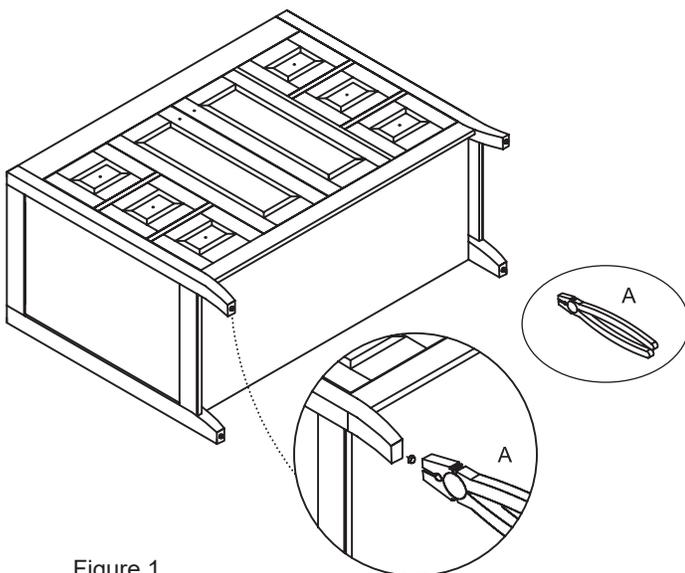

Figure 1
**3:** 1) Provide sufficient protection on the floor to protect the vanity from damage. 2) Tilt the vanity backwards and remove the shipping feet from the bottom of the vanity base using a pair of pliers (A - not included). Figure 1.